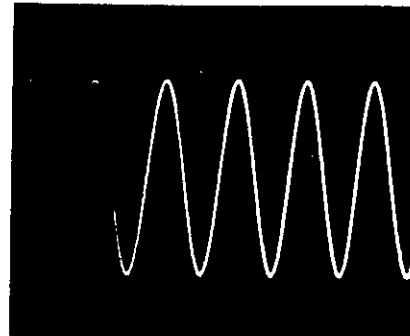

Figure 3-4. Variable persistence with a slow, repetitive sweep.
- b. For variable persistence operation, use minimum INTENSITY and maximum PERSISTENCE compatible with the desired display. (See Figure 3-4).